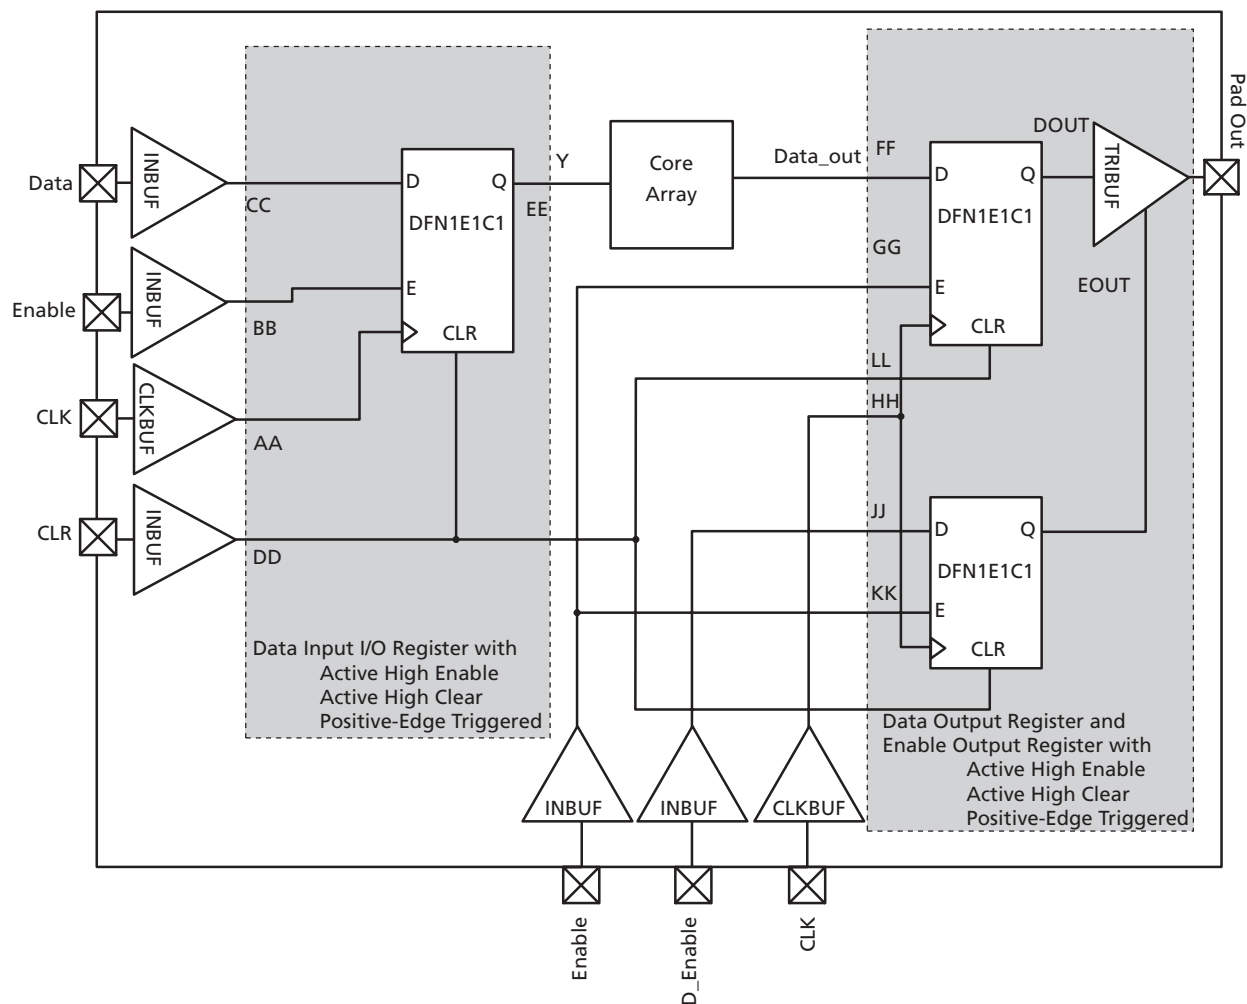

Figure 2-17 • Timing Model of the Registered I/O Buffers with Synchronous Enable and Asynchronous Clear
* See Figure 2-17 on page 2-70 for more information.